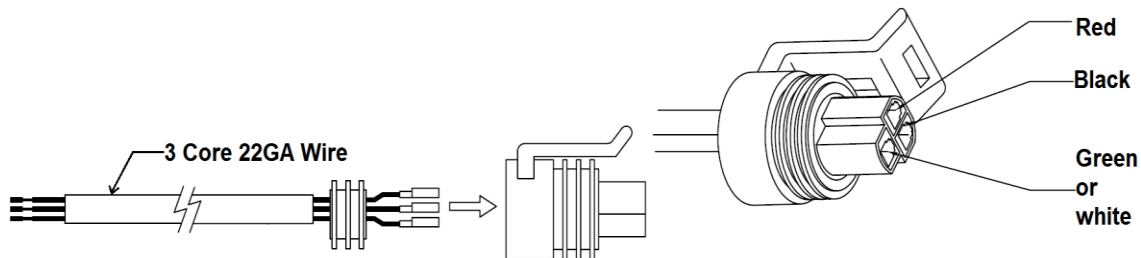

Figure 3
- 1) Unplug the pressure sensor to inspect the connector. (Figure 3)